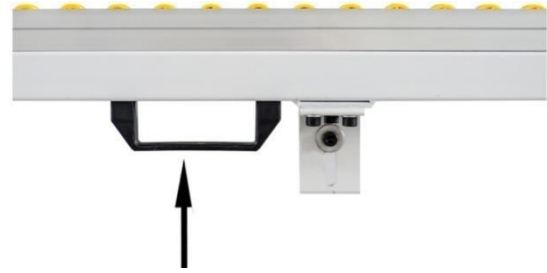

Figure 4
8.2 After adjustment of supporting material device (Figure 4):